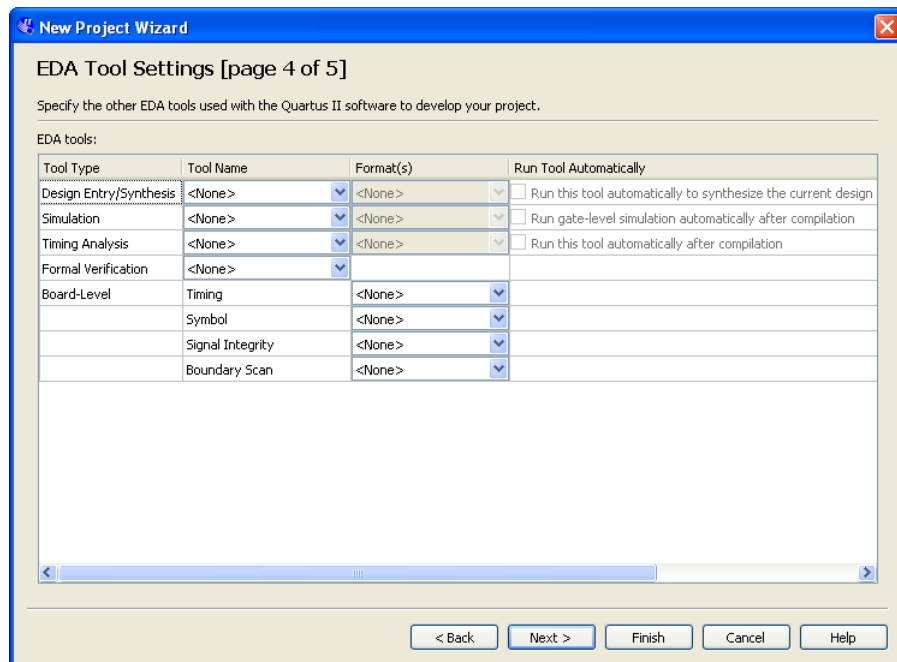

Figure 8. Other EDA tools can be specified.
4. We have to specify the type of device in which the designed circuit will be implemented. Choose the Cyclone-series device family for your DE-series board. We can let Quartus II software select a specific device in the family, or we can choose the device explicitly. We will take the latter approach. From the list of available devices, choose the appropriate device name for your DE-series board. A list of devices names on DE-series boards can be found in Table 1. Press **Next**, which opens the window in Figure 8.